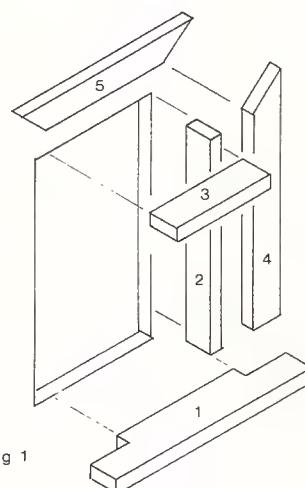

Fig 1
For windows (Figure 1 – Construction Details), begin with the sill (1) cut from 2 x 8 strip at 13mm and notch for a neat fit to the window opening. Next cut from 2 x 4 strip, two verticals (2) to fit inside the window and resting on top of the sill and then follow with the top piece (3) of the window frame. Make sure that the window frame is flush with the inside of the wall. Cut two vertical architraves (4) with a 45 degree mitre at the top and butt against the frame protruding from the wall. This isn't prototypical but rather tends to highlight window detail at a distance.